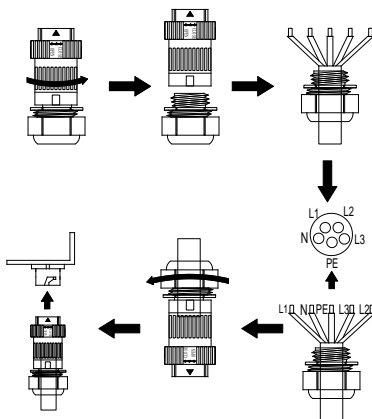

Figure 3.9.2 AC connection of three-phase inverter
- (1) Before connecting the three-phase AC grid cable to the inverter, take lightning and short circuit protection measures in accordance with the local electrical safety codes;
- (2) As shown in Figure 3.9.2, connect and fasten 3L, N and PE conductors of the three-phase common grid to AC terminal, and then connect the terminal to the AC port of the inverter;
- (3) Fix and connect the DC output cables of PV board with the matched DC connectors, and then connect the connectors to the DC port of the inverter.